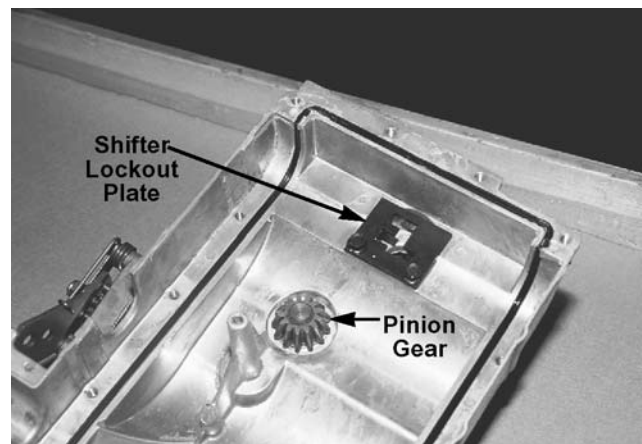

Figure 5-72.
13. Inspect the pinion gear for any nicks or extreme wear. If damaged, replace the gear, input shaft, and seal. See Figure 5-72.